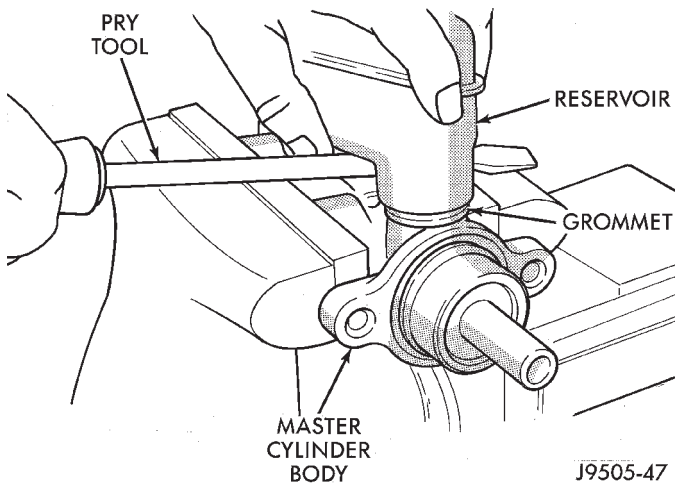

Fig. 41 Loosening Reservoir
(4) Loosen reservoir from grommets with pry tool (Fig. 41).